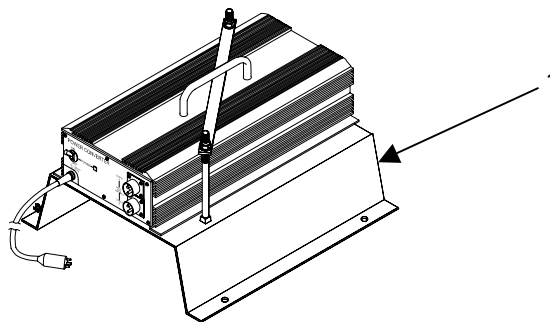

Figure 4. MKT Modification (Power Converter Mounting Bracket)
A third modification involves the installation of a power converter mounting bracket assembly (**figure 4, item 1**) onto the floor of the MKT cooling cabinet. The fielding contractor will install the bracket into which the unit will install the power converter received with the MBU shipment.